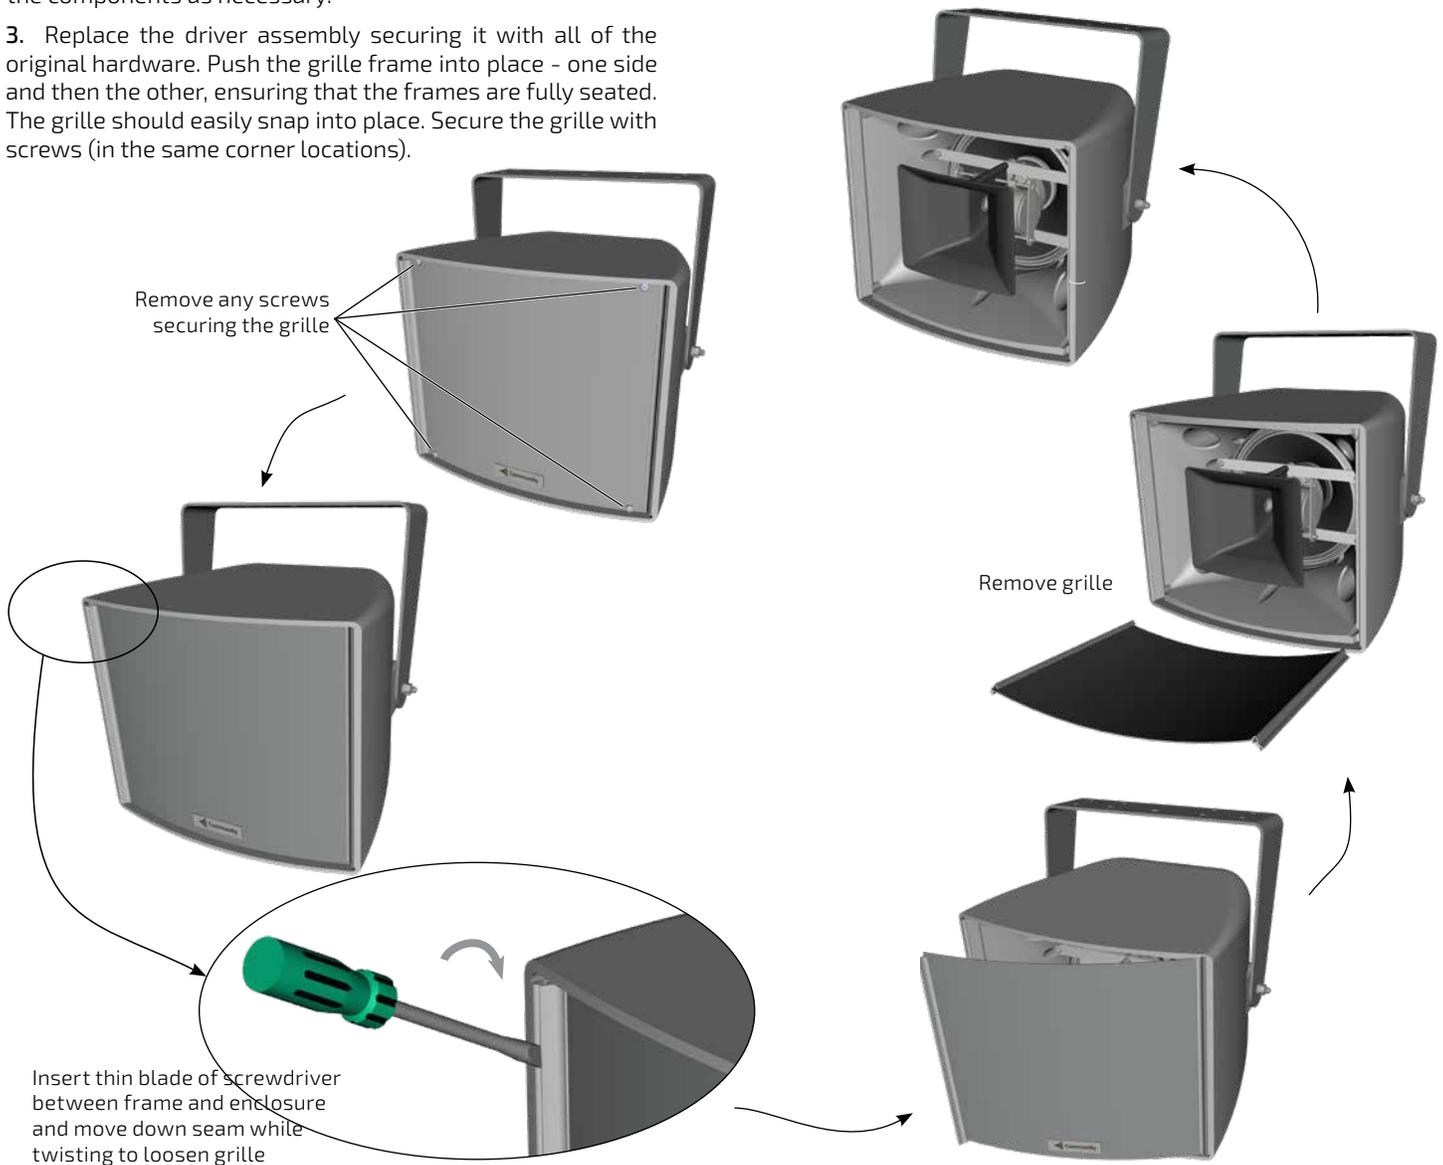

Figure 7. Remove grille
1. Remove the grille. Refer to illustrations in **Figure 7**. Remove the screws securing the grille to the enclosure. The grille frame locks into the enclosure frame. Carefully insert a thin flat bladed screwdriver between the grille frame and the enclosure frame while gently pressing down on the grille. Starting at the top and moving down, twist the blade to release the grille from the frame. Repeat as necessary to release the other side and remove the grille.